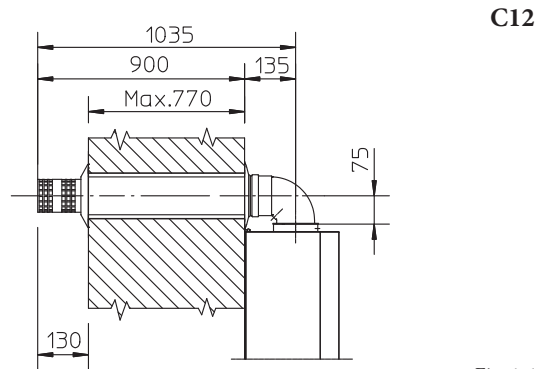

Fig. 1-16
• Application with rear outlet (Fig. 1-16). The 970 mm pipe length enables routing through a maximum thickness of 775 mm. Normally the terminal must be shortened. Calculate the distance by adding the following values: Part thickness + internal projection + external projection. The minimum indispensable projection values are given in the figure.